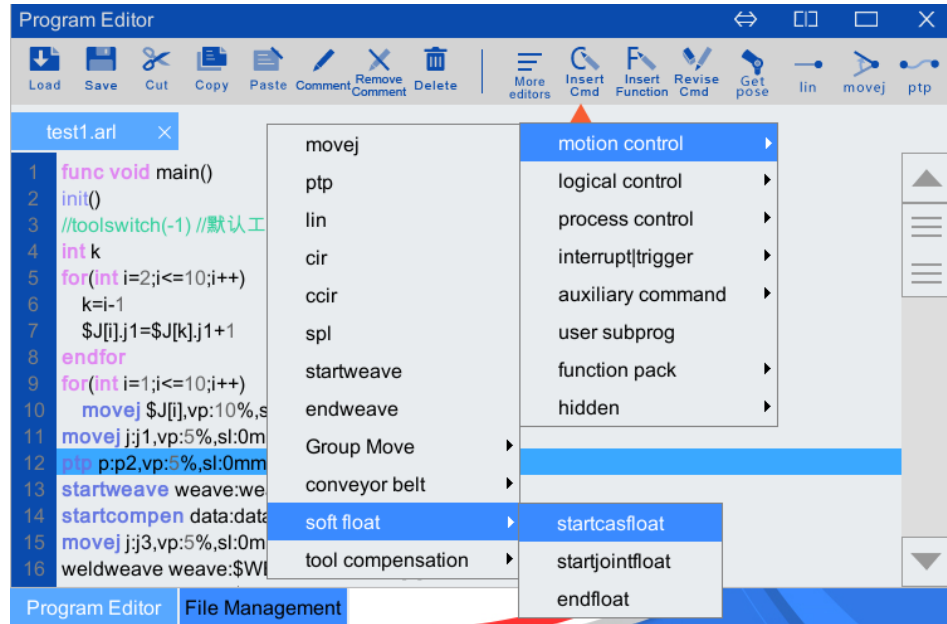

Figure 5-7 Soft float submenu command
Step1. Click [Insert Cmd/Motion Control/Soft float], and the selection menu shown in Figure 5-7 will pop up.